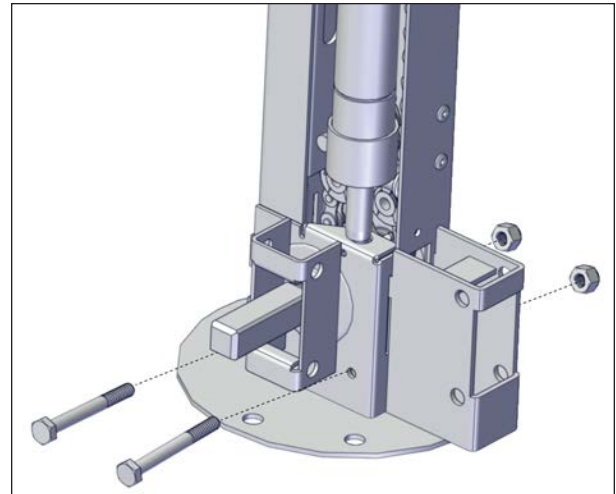

FIGURE 50: SCREW INSTALLATION
- Install two 1/4" x 2 1/4" hexagonal head screws and nylon-insert lock nuts. Use the appropriate socket wrench spanner to fasten the foot in place see Figure 50.
Make sure you respect the orientation of the fasteners, as shown in Figure 50.